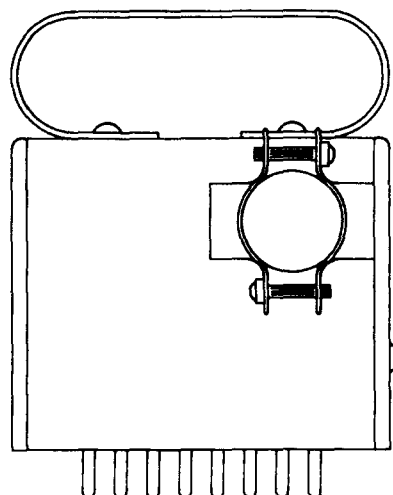

Fig. 4—KS-14554, L3 or L4 Connector
- (c) **KS-14554, L3 and L4:** The L3 and L4 connectors (Fig. 4) are equipped with a cover, a cable clamp, and a handle on the top. The clamp fits 1/2-inch diameter cable and is located on the wide side. The clamp of the L3, located on the wide side, is near the No. 1 terminal. The clamp of the L4, located on the wide side, is near the No. 4 terminal. The connectors are used with the 557A PBX.